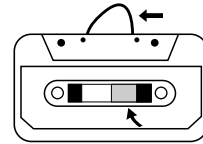
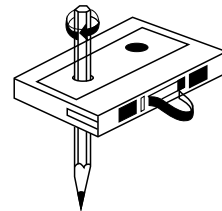

Fig. 1
Fig. 2
- Check that there are no loose layers of tape visible through the cassette centre window (see Fig. 1). Take up any loose layers, using a pencil or hexagonal barrelled ballpoint pen, before inserting the cassette into the machine (see Fig.2).
- If the cassette feels “ tight ” while performing operation shown (see Fig.2), the tape may be jamming due to “ridges” formed in the winding of the tape (visible through the centre window). These may be removed, in most cases, by fast winding of the cassette from one end to the other and back again.